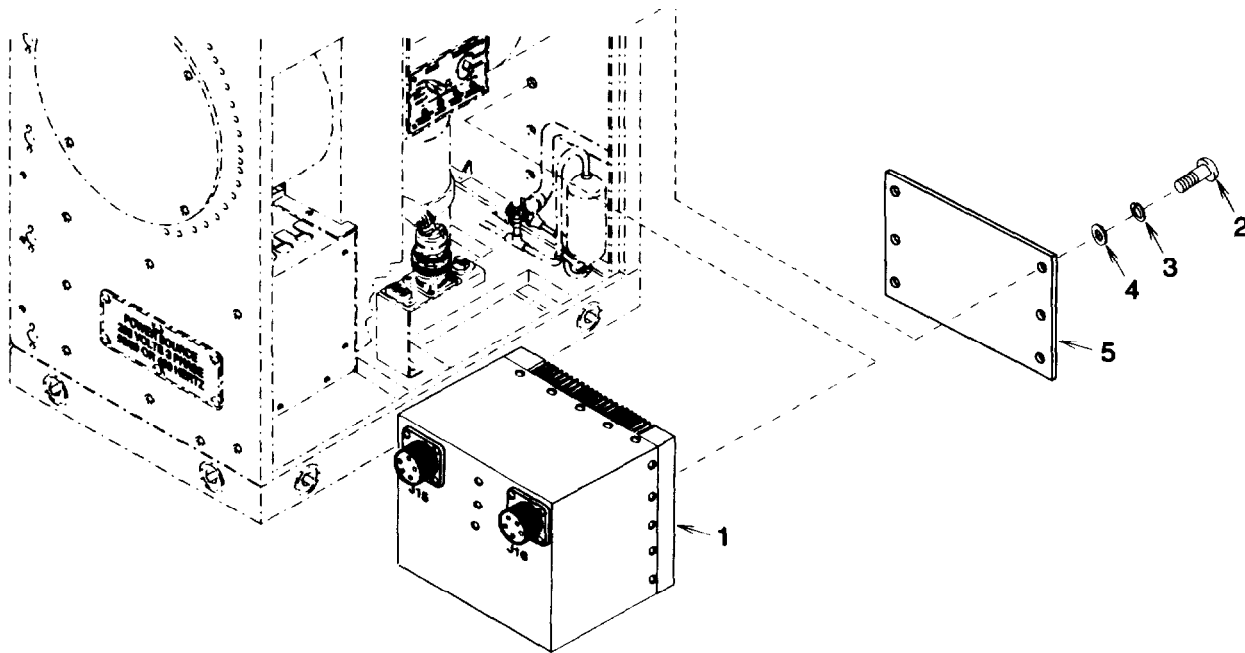
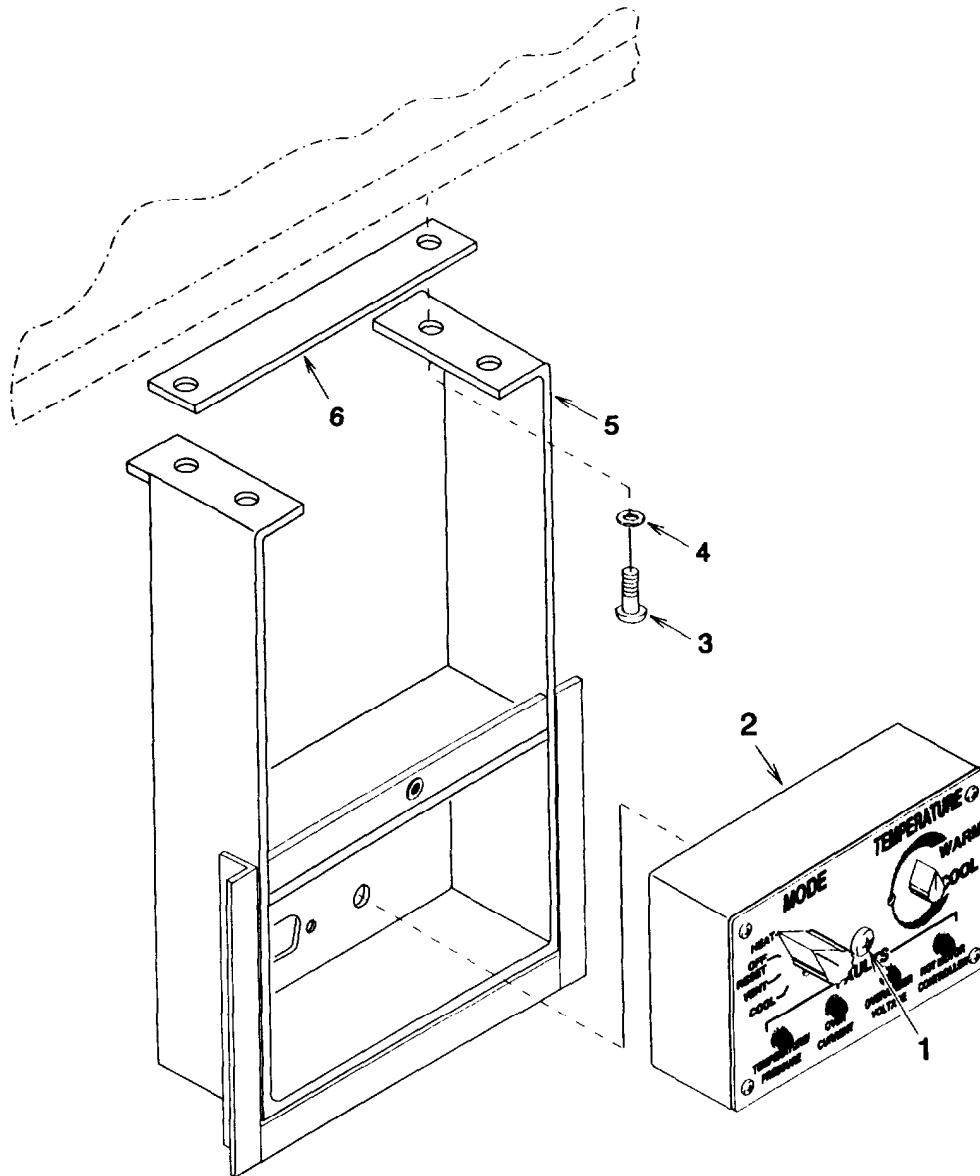

Figure 3-37. EMI Filter (FL1)
Figure 3-38. Control Panel Support
(1) EMI Filter (FL1) Removal.
(a) Tag and disconnect wiring harness connectors from EMI filter (1) Figure 3-37.
1 Loosen screw (1) Figure 3-38 and remove control panel assembly (2).
- (g) Feed connector (8) through box (4) and install six screws (10), new lock washers (11), and flat washers (12).
- (h) Install gasket (9), connector (8), four screws (7), and new self locking nuts (6).
- (i) Install box (4), four screws (1), new lock washers (2), and flat washers (3).
- 1 Install shim (6) Figure 3-38, control panel support (5), four screws (3), and flat washers (4).
- 2 Install control panel assembly (2) and tighten screw (1).
(3) EMI Filter (FL1) Installation.
- (a) Install EMI filter (1) Figure 3-37, doubler plate (5), six screws (2), new lock washers (3), and flat washers (4).